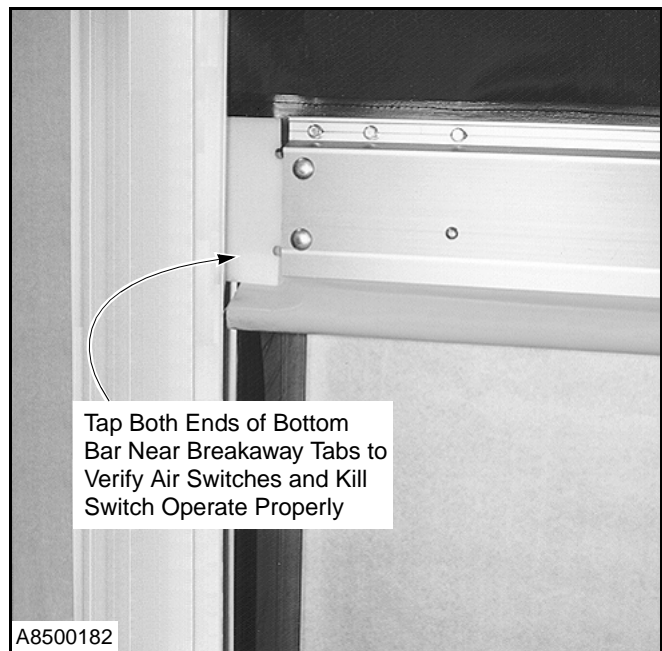

Figure 79
6. To verify the kill switch system is operating properly, with the ohmmeter across both terminals, gently tap on one end of the bottom bar, near the breakaway tabs to activate the air switch at that end of the bottom bar. (See Figure 79.)